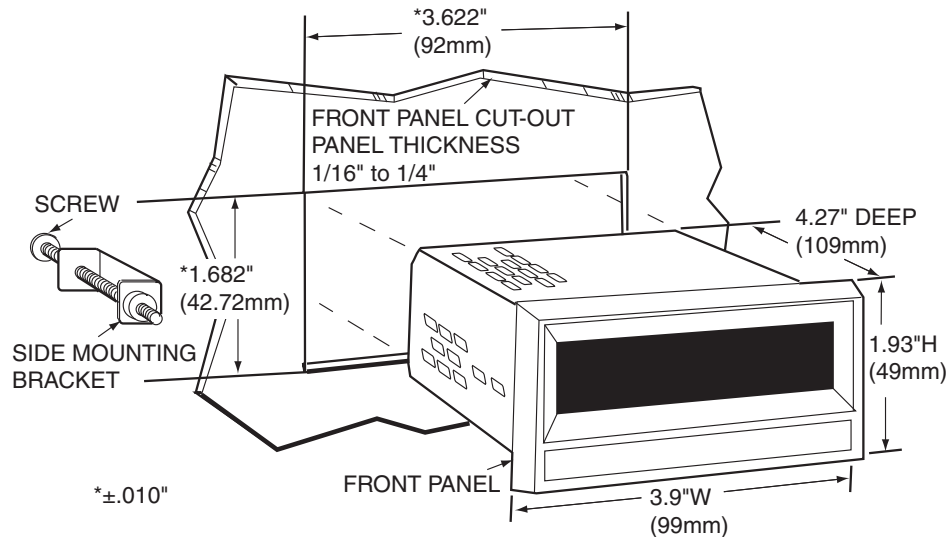

Figure 2. Panel Mounting and Cut-Out Dimensions
2. Insert a side mounting bracket (10-863122) on each side of the Instrument. Use the two holes near the bezel shown in Figure 2.